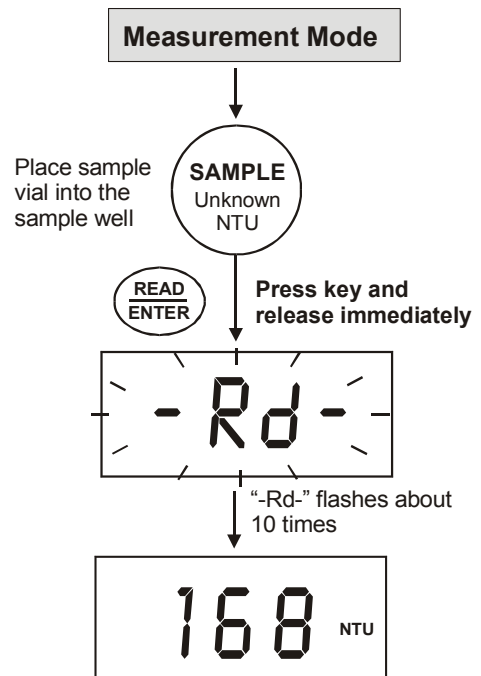

Figure 12: Single-shot Measurement
4. Press **READ/ENTER** key and release immediately (<0.3 seconds). See Figure 12.